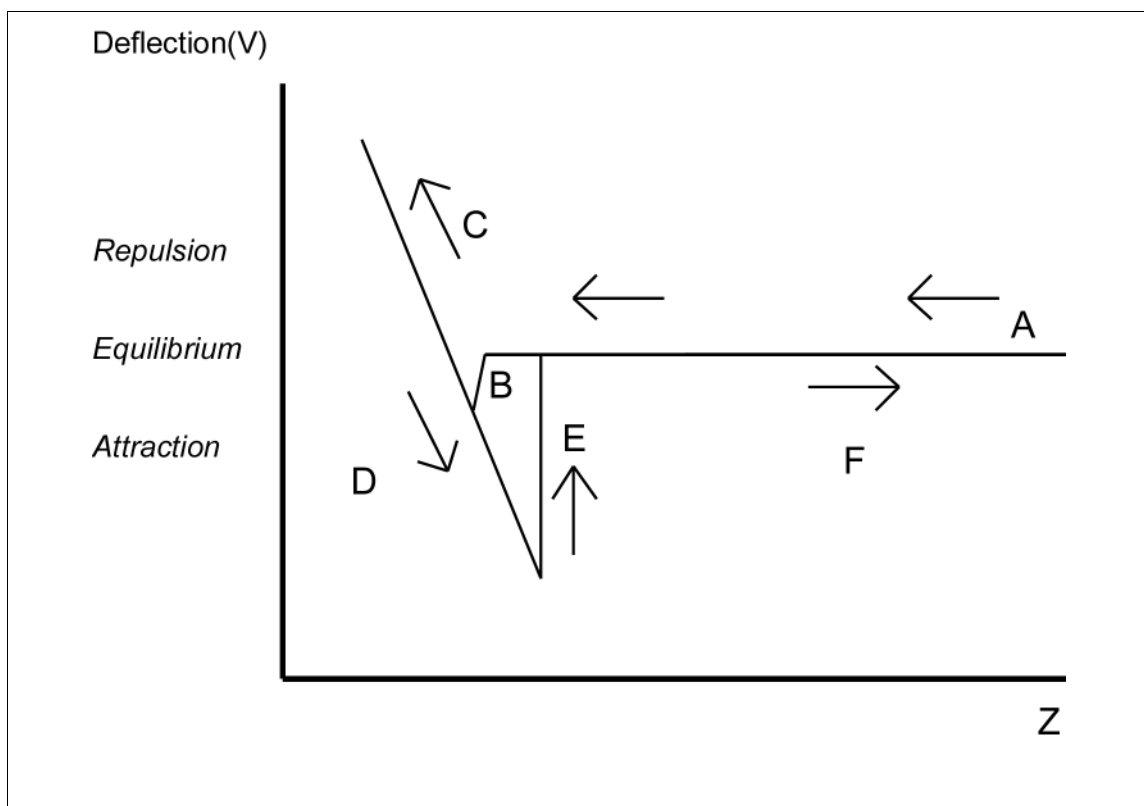

Figure 99
To acquire the data, a spectroscopy measurement must be setup. Use the menu item *Settings/Spectroscopy/Point Spec* to open the tab used to setup an F-z curve. The settings should be similar to shown in Figure 99. A BNC cable should be connected from one of the DAC Output channels to the Z Position Modulation Input #1. It is most important to see the flat region at large z which indicates that the tip has pulled off the surface. XPMPro™ considers a negative value to be decreasing the tip-sample separation and a positive value to pull the two apart. When taking an F-z curve, if it is desired to push the tip in first while remaining in contact, use a negative value for *tip initial height*. If it is desirable to pull the tip off the surface before data
An idealized F-Z curve is shown in Figure 99 and can be understood as follows. After the feedback loop is opened, the tip is pulled back a large amount so it starts at large positive z (A) with no tip-sample contact. As z is decreased, the tip suddenly is pulled towards the surface and makes contact (B) via various attraction mechanisms so the deflection of the cantilever is down from its equilibrium position. As z continues to decrease, the cantilever starts to deflect upwards (C) and the relationship between z motion and detector voltage is recorded. This slope is the critical information needed to convert the photodiode voltage into a z height. As z then reaches its minimum value and starts to increase, the deflection starts to decrease (D) but the tip maintains contact with the surface for a larger z because of capillary forces between tip and sample. The tip eventually breaks contact (E) and snaps back to its equilibrium position. As the z increases to a large value, the tip and sample are again separated by such a large amount that the cantilever remains at its equilibrium position (F). Note the slope of the large separation part of the curve is shown flat in this idealized picture, however in reality, there may be either an upwards or downwards trend to it as z decreases due to longer range forces acting between tip and sample along with oscillations due to laser interference with light scattered from the sample.
For example, if the D region in Figure 99 ranges from +500 Å to -150 Å and from 50 mV to 700 mV. This gives a slope of 1 mV/Å (displayed as 10 MV/m in the software) for the detector sensitivity, and if the cantilever spring constant is 0.1 N/m, then the probe will exert a force of 10nN for every 1 Volt change in the setpoint. Keep in mind these numbers are for illustration purposes only and may not closely represent any particular microscope design or specific cantilever. If the calculated value for the slope is now entered into the deflection sensitivity setting in the window described above, any F-z curves acquired after this will display the values as nN vs. nm.